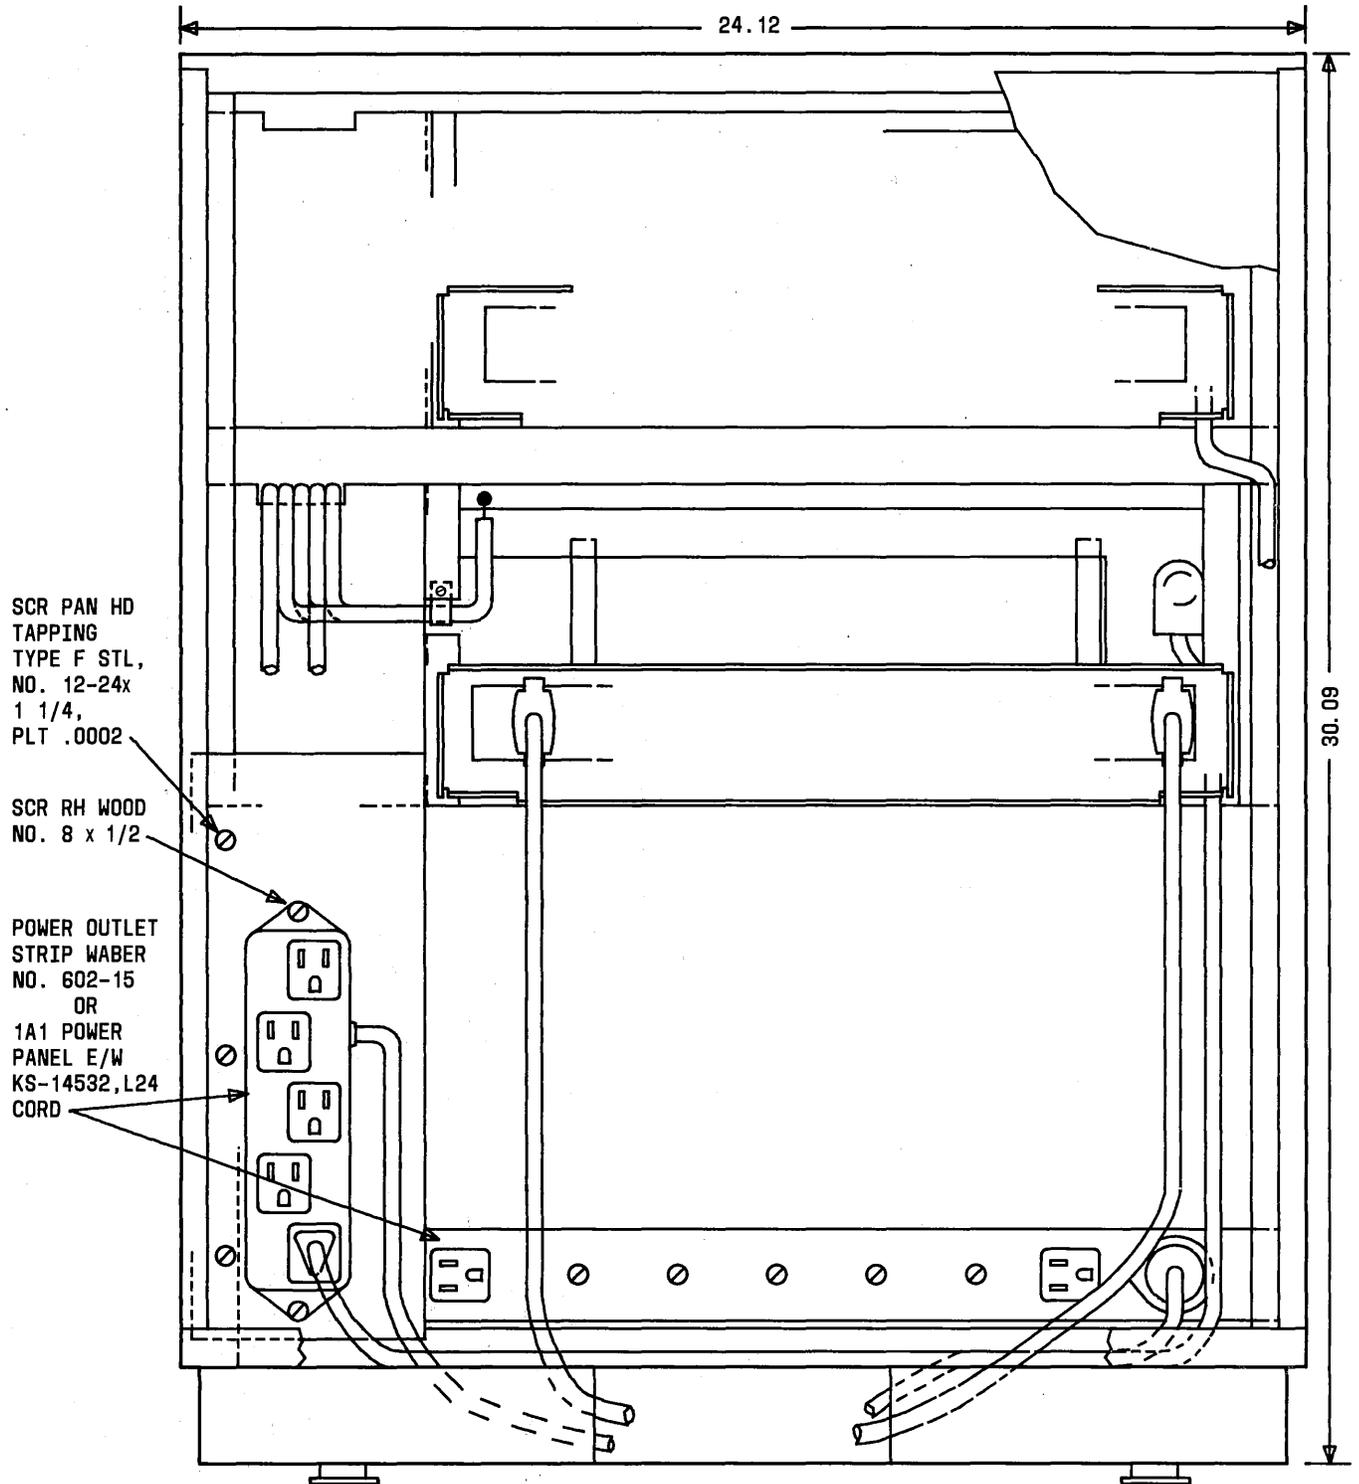

Fig. 8—Rear View of Data Station Equipped With 40A3 Data Mountings
**3.05 111A Apparatus Mounting:** The 111A apparatus mounting is used (in the 40A3 only) to mount the KS-19252 adapters and 66E-type connecting blocks (Fig. 8).